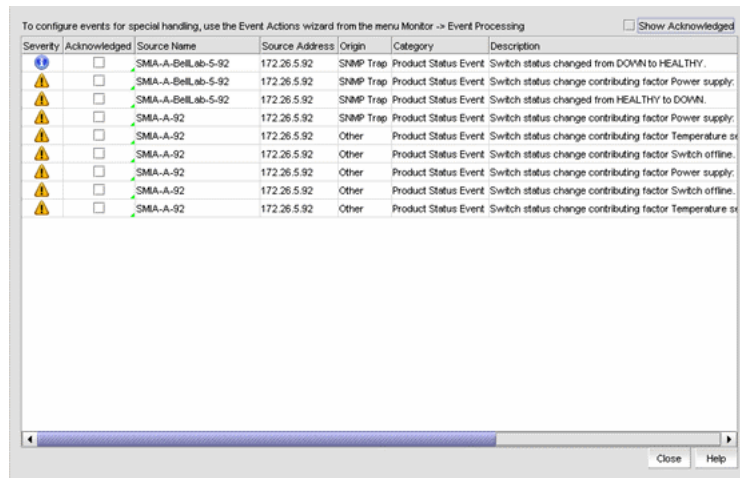

FIGURE 465 Special Events dialog box
1. Click the special events icon to launch the **Special Events** dialog box, shown in Figure 465.
The Special Events dialog box, shown in Figure 465, lists the most recent 1000 events that have been identified as special events.